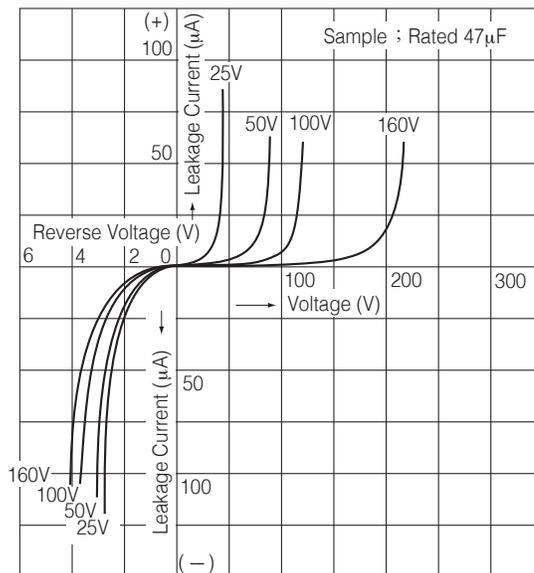

Fig. 2-2 V - I Characteristics (Voltage - Current Characteristics)
The relationship between the voltage and leakage current when voltage is applied to the aluminum electrolytic capacitor is shown in Fig. 2-2. From Fig. 2-2, the following can be observed:
(Fig. 2-2 V-I Characteristics) shows, the aluminum electrolytic capacitor does not have a withstand voltage in the reverse direction. If the capacitor is used in an AC circuit, the electric current flowing is larger than that calculated from $I = \omega CE$. If the internal resistance of the aluminum electrolytic capacitor is labeled $R (\Omega)$, heat will be generated due to the wattage loss $W = I^2R$ (W) according to the current. The amount of heat is large because the internal resistance of the capacitor is large. The pressure relief vent is activated when heat is generated. This causes the electrolyte to evaporate, and the internal pressure to rise. Even bipolar capacitors (non-polar), cannot be used in continuous AC applications.